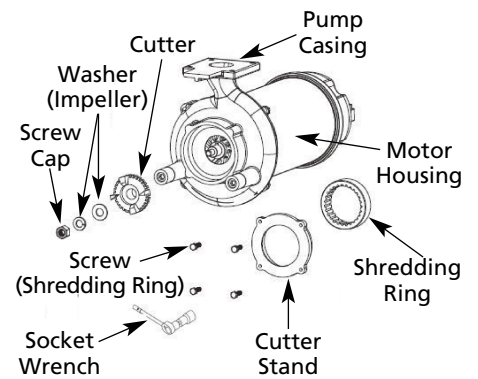

Figure 8
2. Remove the cutter stand (Figure 8) and shredding ring. Remove the screw, washer, and spring washer; then the cutter. Clean and examine the cutter, shredding ring and cutter stand for pitting or wear and replace if damaged. To maintain efficient grinder pump operation, the cutter and shredding ring must have sharp cutting edges. Neither part can be sharpened to renew its cutting ability. The cutter must be replaced and the shredding ring either reversed or replaced. Inspect the cutter stand and replace it if cut or damaged.